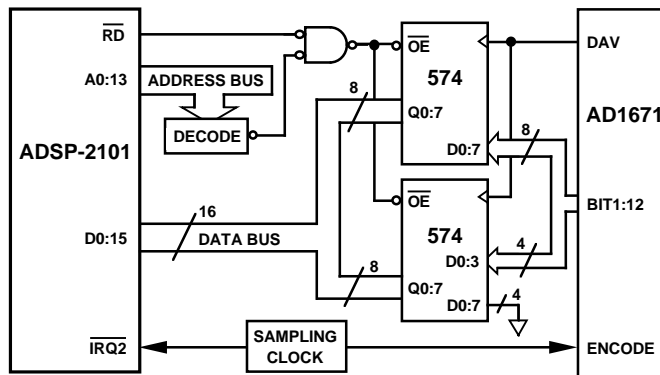

Figure 17. AD1671 to ADSP-2101/ADSP-2102 Interface
Figure 17 is identical to the 2100A interface except the sampling clock is used to generate an interrupt (IRQ2) for the processor. Upon interrupt the ADSP-2100A starts a data memory read by providing an address on the address (A) bus. The decode address generates OE for the D-latches and the processor reads their output over the Data (D) bus. Reading the conversion result is thus completed within a single processor cycle.